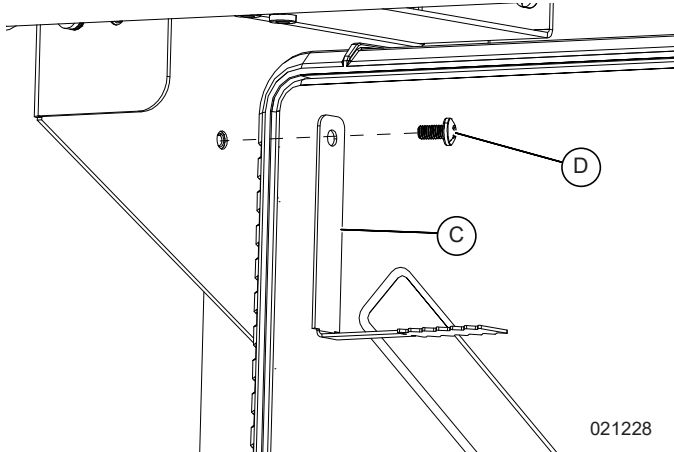

Figure 4-15. Installing Bottom Grounding Tabs (2 of 2)
2. Fasten each grounding tab with a M4x8 mm star bit T20 screw (B) and tighten to 13 **in-lbs** (1.47 Nm).
3. See Figure 4-15. Install two L-shaped grounding tabs (C) at the top of the module on both sides.